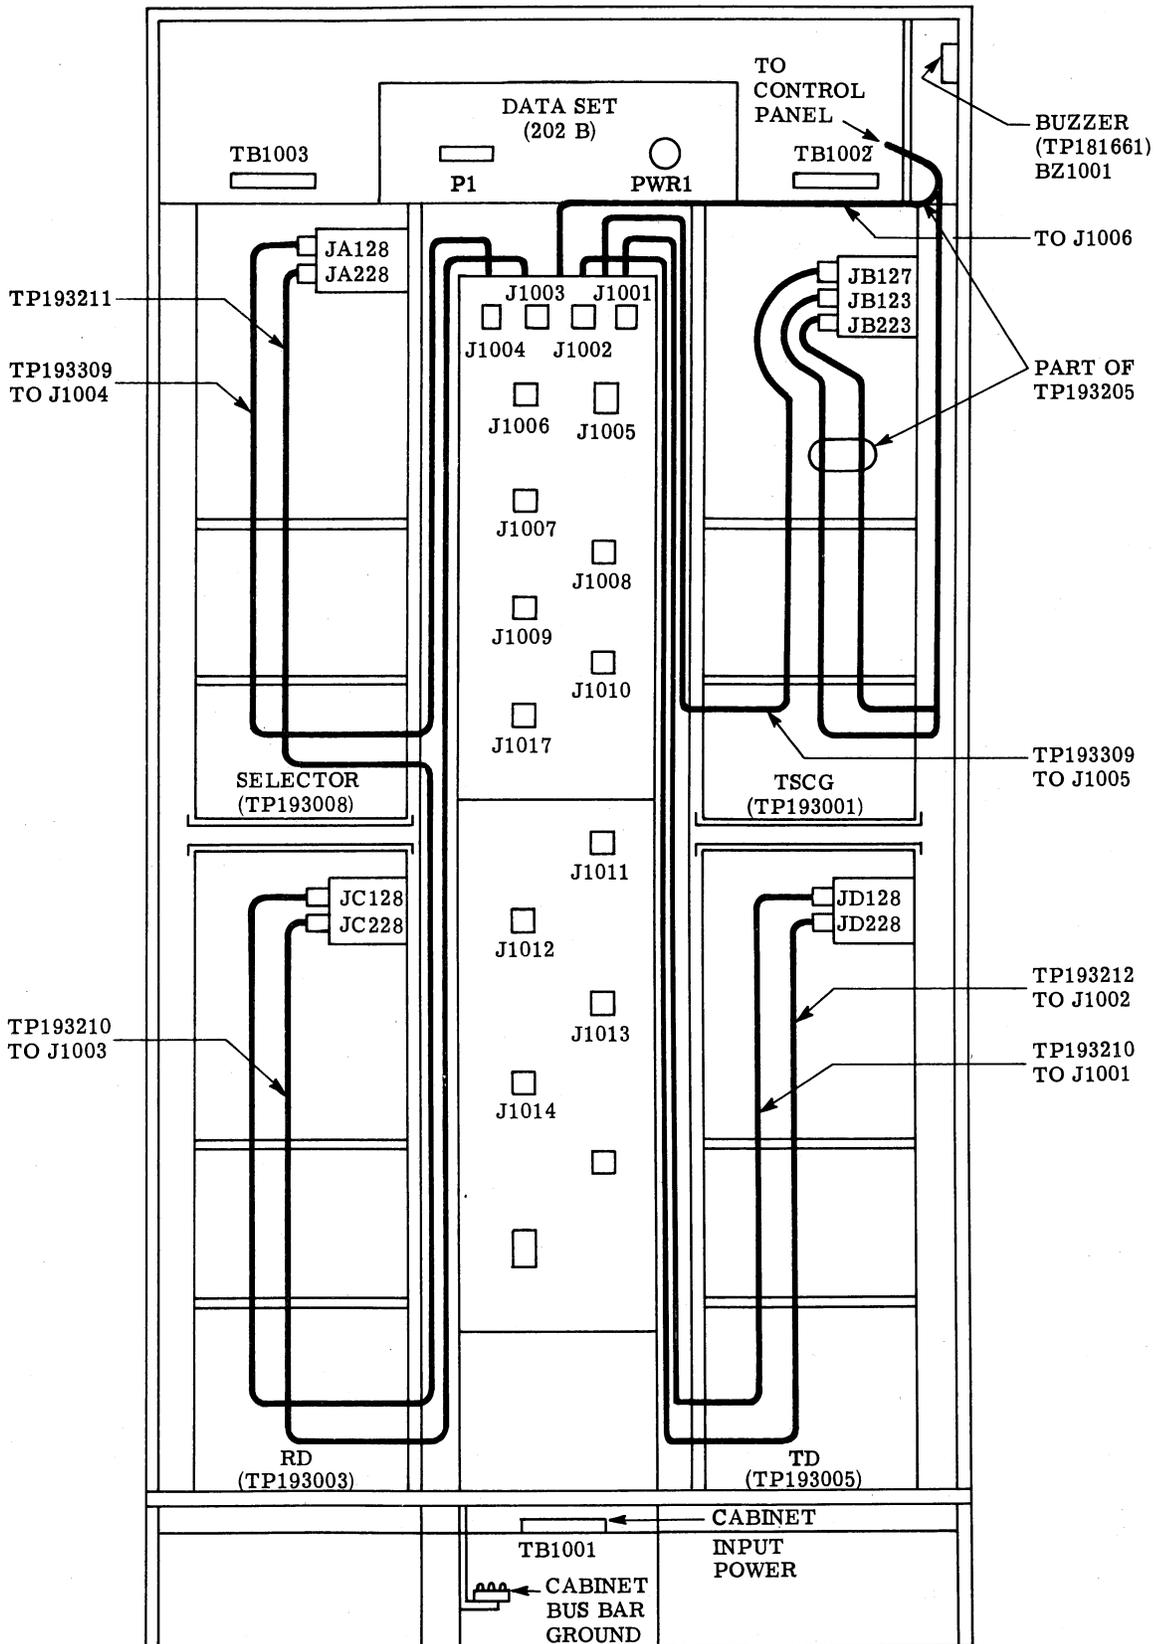
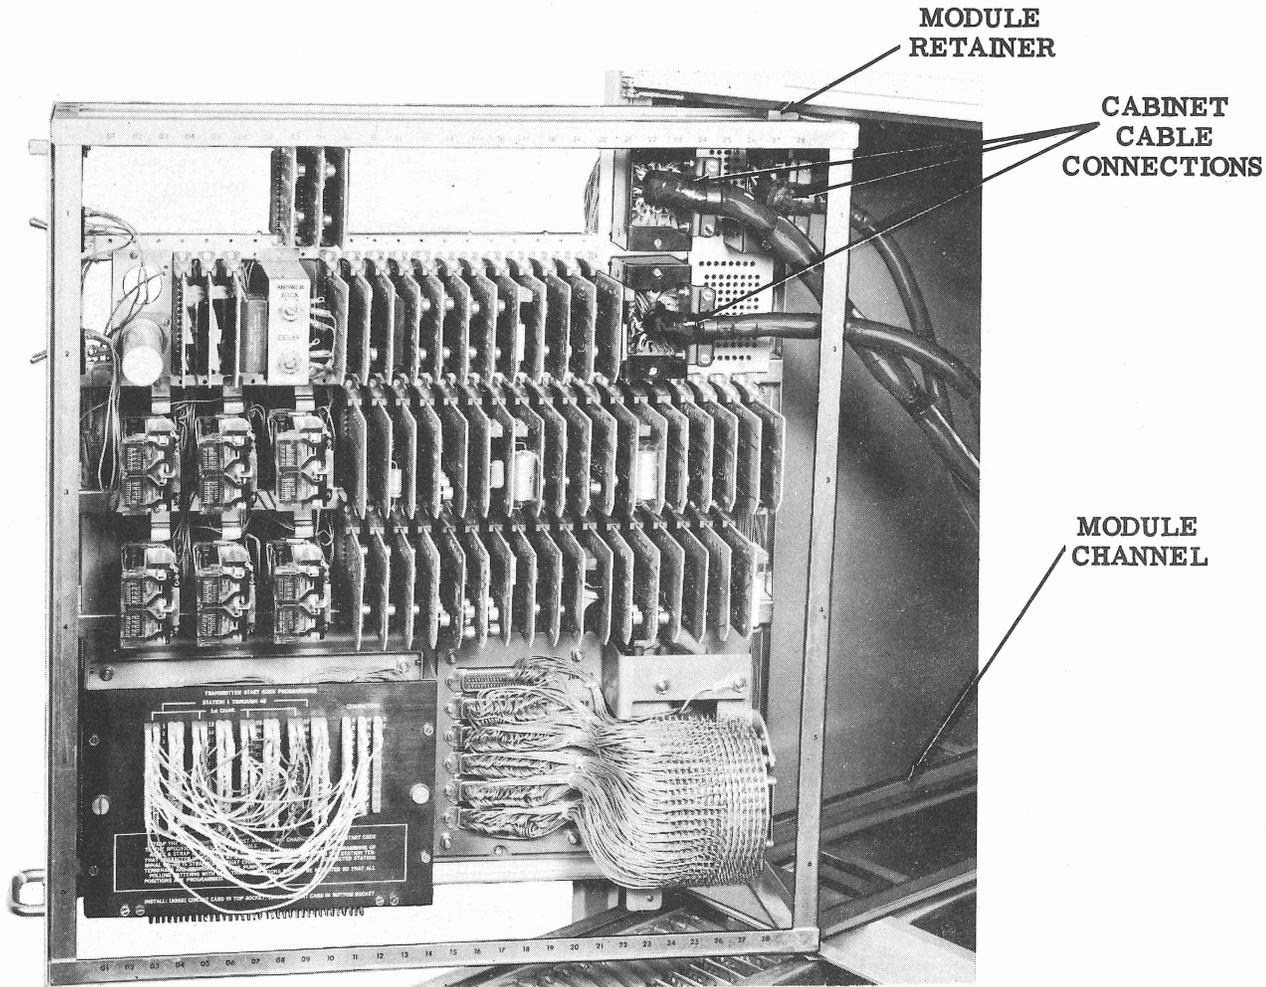

Figure 7 - Rear View Master Station Controller Cabinet
Figure 9 - Transmitter Start Code Generator, Showing Module Position for Cabinet Connections
5.04 With the module in its forward position, attach the proper cabinet cable and tighten the connector retaining screws. Figures 7 and 8 show cabinet cabling and routing. Typical module cable connections are shown in Figure 9.